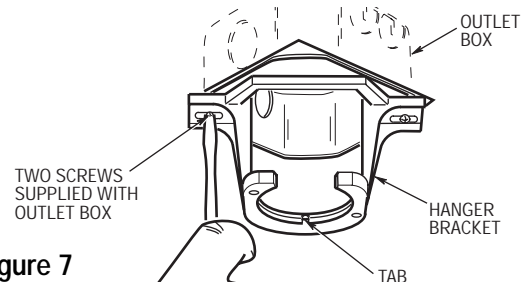
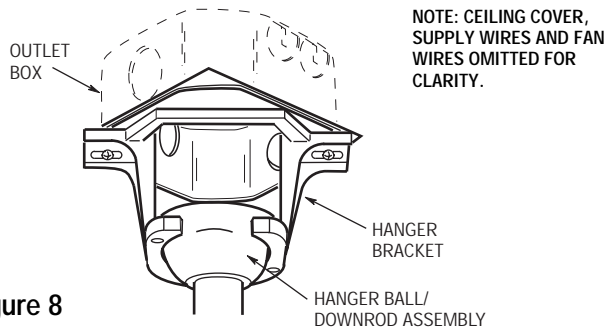

Figure 7
Figure 8
1. Securely attach the hanger bracket to the outlet box using the two screws supplied with the outlet box (Figure 7).
2. Carefully lift the fan from the foam pad and seat the hanger ball/downrod assembly on the hanger bracket that was just attached to the outlet box (Figure 8). Be sure the groove in the ball engages with the tab on the hanger bracket (Figure 7).
- 2. Connect the fan motor white wire to the supply white (neutral) wire using a wire connector (supplied) (Figure 7). Connect the fan motor black wire and blue wire to the supply black (hot) wire using a wire connector (supplied) (Figure 7). Your fan is now wired to be turned on and off from the fan switch. After connections have been made, turn leads upward and carefully push leads into the outlet box, with the white and green leads on one side of the outlet box and the black and blue leads on the other side of the outlet box.